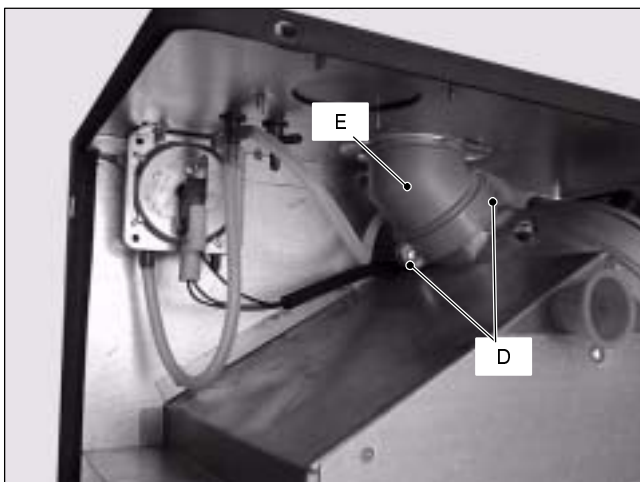

Fig. 71
- 4 Unscrew the screws D and remove the clamp E (Fig. 71).